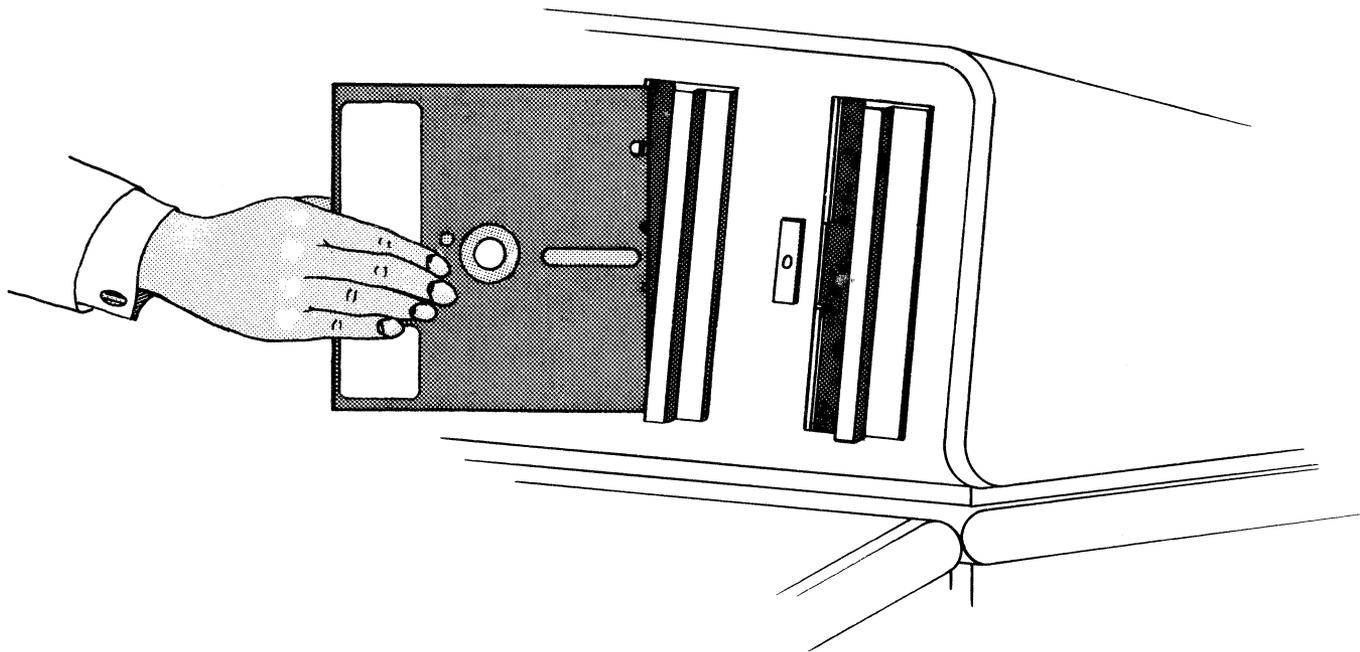

FIG 2/4
- 2.10.1 If the Disk Drive's loading slot is closed, press the illuminated indicator's back plate. The loading slot's cover should now spring open. (see Fig. 2/2b or c)
- 2.10.2** Hold the Diskette as shown in Fig. 2/4.